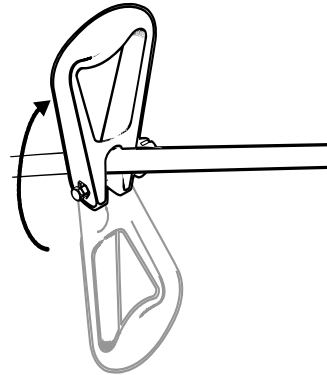

Fig. 8
1. Loosen adjustment knob and rotate handle to the top of shaft (Fig. 8).